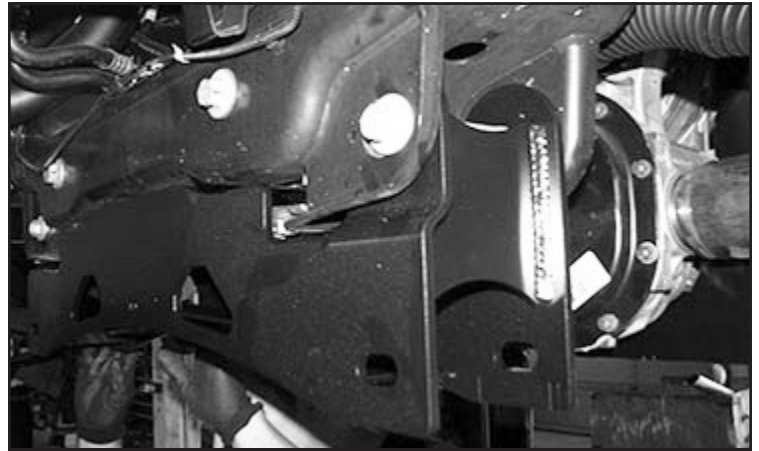

FIGURE 25 - STEP 24
24. Locate the Fabtech front crossmember (FT30592BK). Install the front crossmember into the factory front control arm pockets using the factory hardware. Make sure the skid plate tab on the crossmember is facing the Fabtech rear crossmember. Leave the hardware loose at this time. **SEE FIGURE 25**